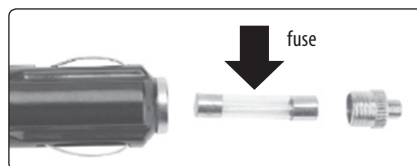

Fig. 10
- In the event that the device is not being charged while the engine is running, check that there is voltage in the socket and also the integrity of the wire in the fuse of the cable's 12 V connector. To access the fuse, it is necessary to unscrew the „cap“ on the 12 V connector (see fig.10). In the event that the fuse is damaged, replace it with a new one (fuse type F2AL 250 V).